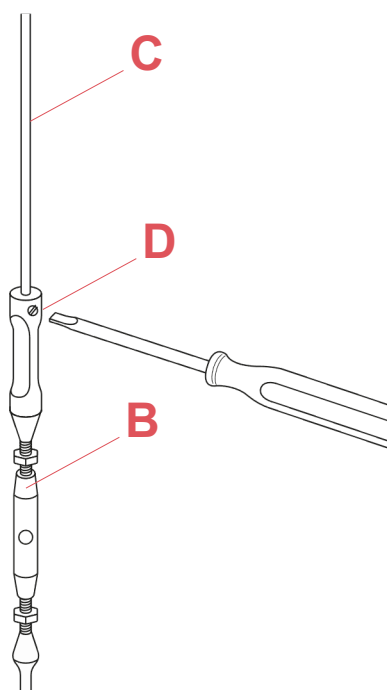

Fig.2
Insert the end point of the steel suspension cable (C) into the upper hole of the turnbuckle (B) and then fasten the locking screw (D). (Fig.2 page 10)